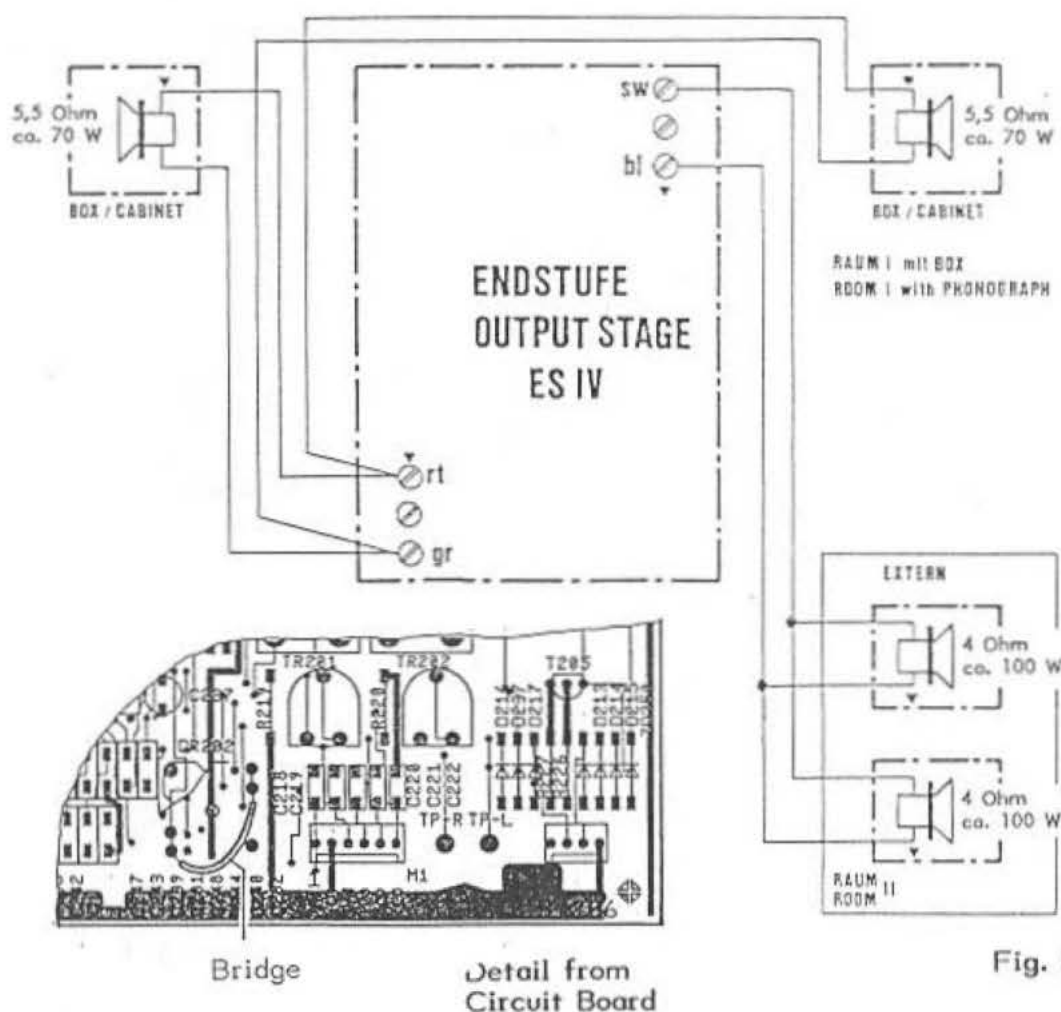

Fig. 3
**Mono mode;** sound system for separate rooms; see Fig. 3. If the volume is to be controlled independently from 2 rooms, both cabinet speakers can be connected to one channel. The loudspeaker for the other room can then be connected to the free channel. For that a jumper has to be soldered at DR 202 (see cut-out PCB central unit).